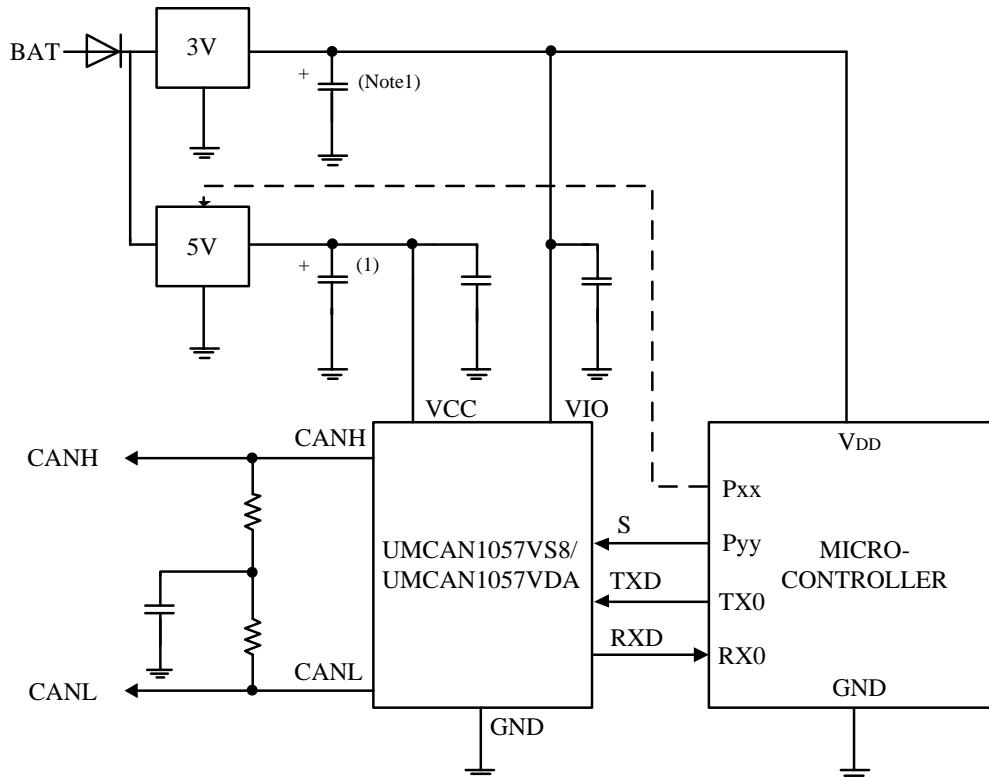

Figure 10-2. Typical application of the UMCAN1057VS8 or UMCAN1057VDA
There are three versions of the UMCAN1057 available, only differing in the function of a single pin. Pin 5 is either an enable control input (EN), a V_{IO} supply pin or is not connected. Pin V_{IO} on the UMCAN1057VS8 and UMCAN1057VDA should be connected to the microcontroller supply voltage (see Figure 10-2). This will adjust the signal levels of pins TXD, RXD and S to the I/O levels of the microcontroller. For versions of the UMCAN1057 without a V_{IO} pin, the V_{IO} input is internally connected to V_{CC} . This sets the signal levels of pins TXD, RXD and S to levels compatible with 5V microcontrollers.